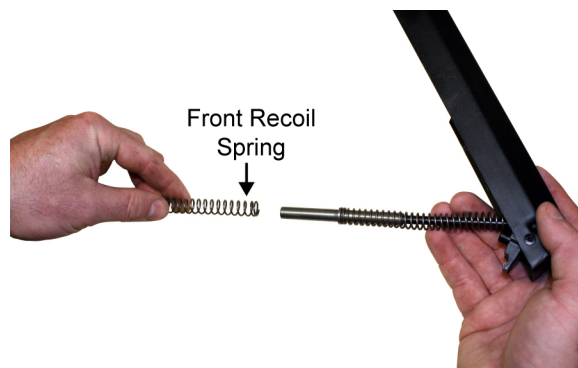

Figure 1. Remove the Front Recoil Spring.
1. Remove the front recoil spring. Refer to Figure 1.